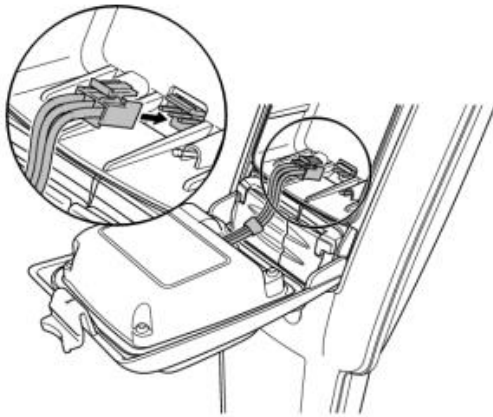

Fig. 4.5: Li-ion battery pack connection
and plug the battery lead into the battery connector (see figure 4.5)
2. If using a Li-ion battery pack un-plug the lead connector (see figure 4.5)